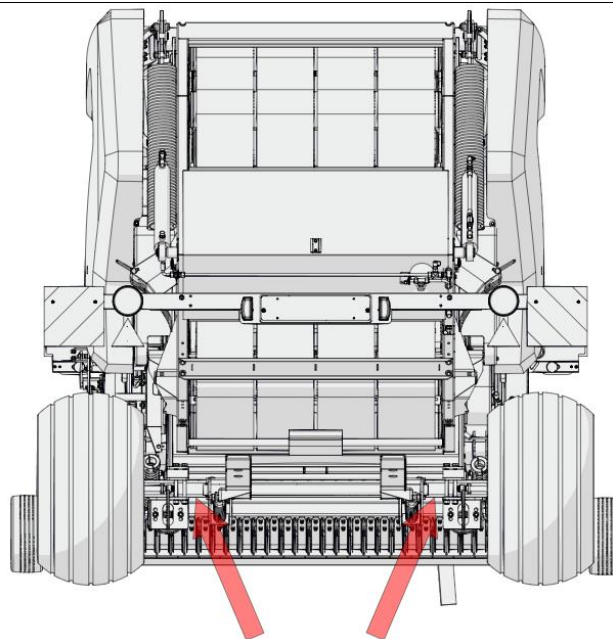

Figure 70. The jacking points
The jack should only be applied on the Baler's axis. The jacking points are shown in Fig. 70. Do not attach the jack to any other point, as it could damage the machine.
- Place the jack in the position shown in Figure 70. The load carrying capacity of the jack must be adapted to the machine;